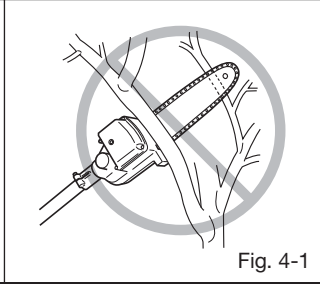

Fig. 4-1
### Vaihteisto (Fig. 4-1)
- Look out for branch immediately behind the branch being cut. If blade hits rear branch damage to blade may occur. (Fig. 4-1)